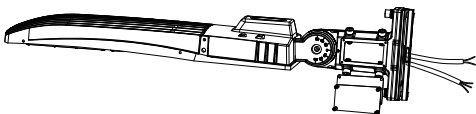

Figure 5
Step 1: Remove the bracket mounting screws on the fixture,open the side lid of bracket and run the wires through the bracket. (Figure 5)